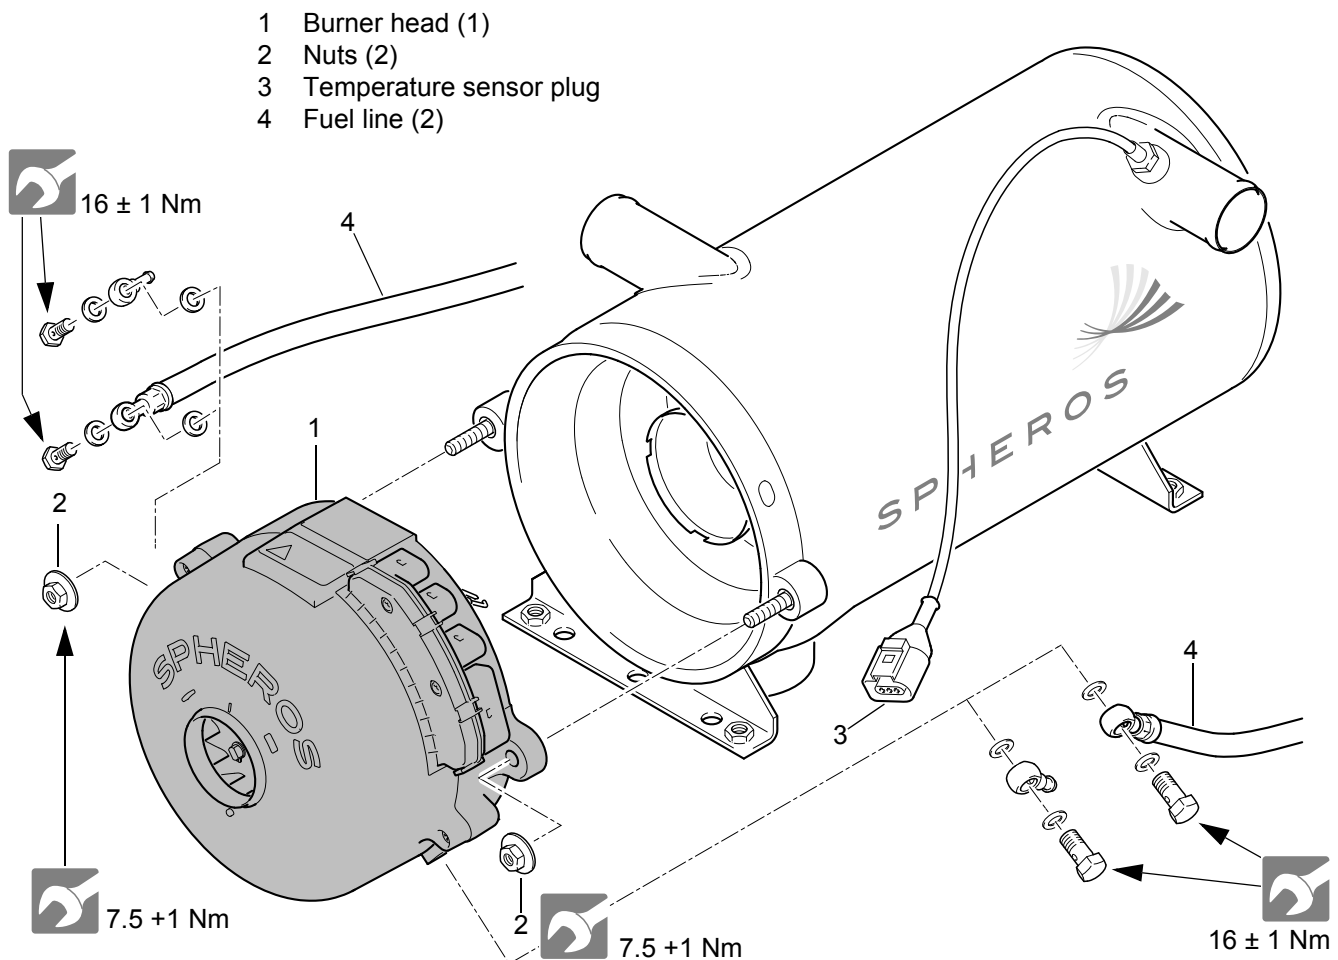
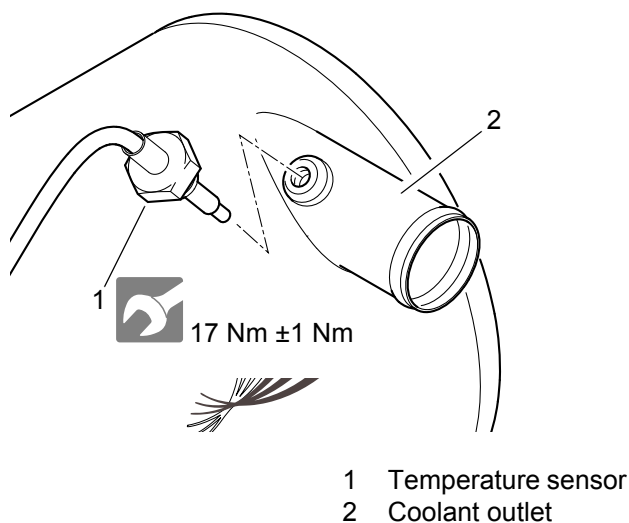

Fig. 801 Burner head removal and installation
Fig. 802 Temperature sensor removal and installation
6. Unscrew fuel lines (4, Fig. 801) and seal with blank plugs.
7. Unscrew nuts (2).
8. Remove burner head (1).
1. Bring burner head (1, Fig. 801) in assembly position and ensure center alignment and correct fit.
2. Place nuts (2) and alternately tighten them slightly.
3. Tighten nuts (2) with  $7.5 \text{ Nm} + 1 \text{ Nm}$ .
6. Connect the temperature sensor plug (T).
7. Connect the plug for the circulating pump (P).
8. Connect the plug for power supply/control (C).
The two combination nuts M8, connecting the burner head and the heat exchanger, must be tightened to torque, see Fig. 801, each and additional are to be secured using thread lock.
2. Disconnect the temperature sensor plug (3, Fig. 801).
3. Unscrew and remove the temperature sensor (1, Fig. 802).
1. Manually screw the temperature sensor (1, Fig. 802) into the coolant outlet (2).
2. Tighten the temperature sensor (1).
3. Connect the temperature sensor plug (3, Fig. 801).